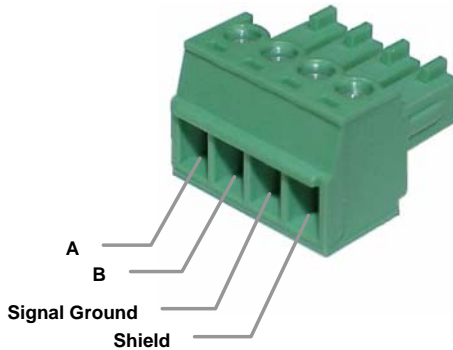

Figure 32: G7/Q7/H7 RS485 Terminal Block (CN3) Connections
- The Toshiba RS485 terminal block connections for G7/Q7/H7/W7 drives are shown in Figure 32 for reference only. Because there are many possible RS485 port configurations & options available for the various Toshiba drives, please refer to the relevant Toshiba documentation for your drive.